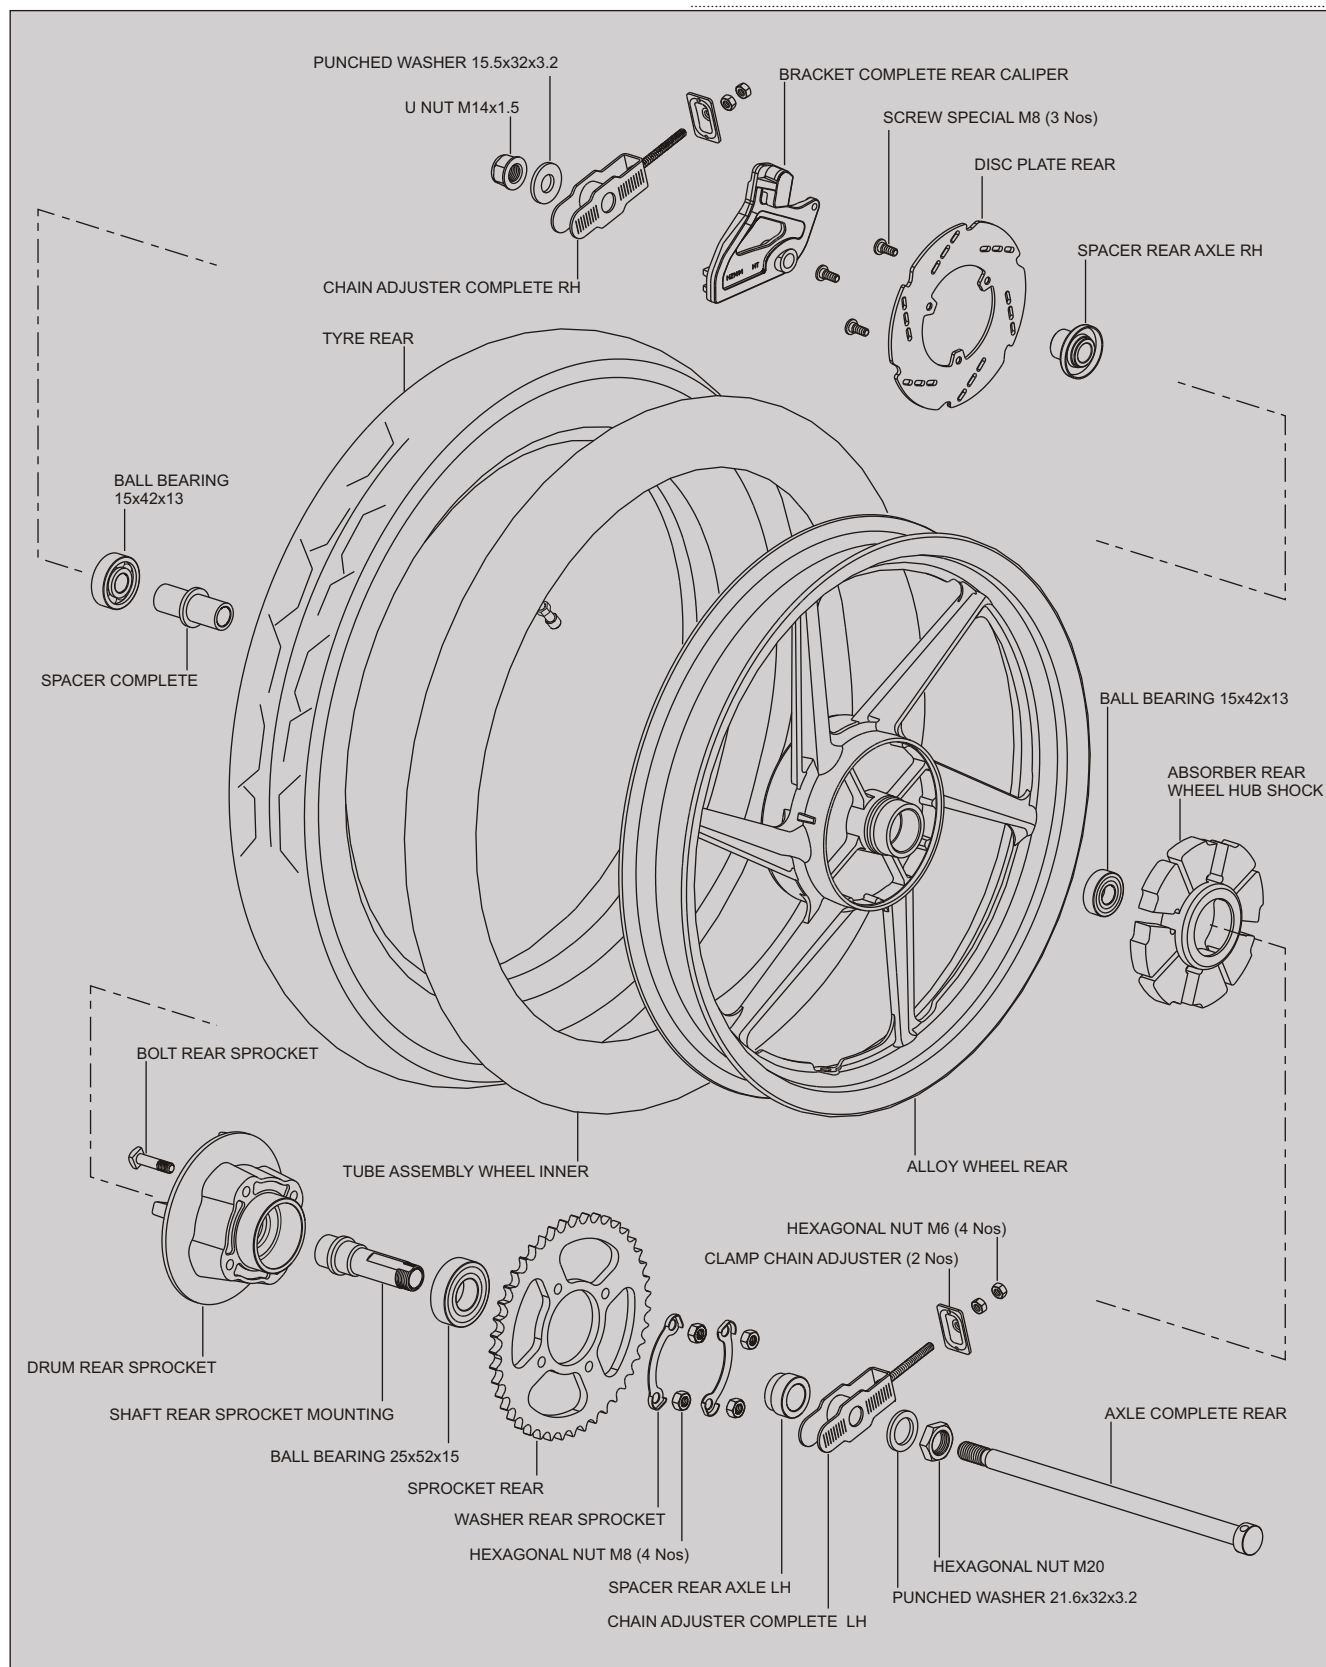

Fig. 6.87
- Reassemble and remount wheel assembly rear in the reverse order of disassembly. Also carry out the following steps. Refer wheel assembly (disc brake) exploded view (Fig. 6.87 & 6.88 ) for assembly details.